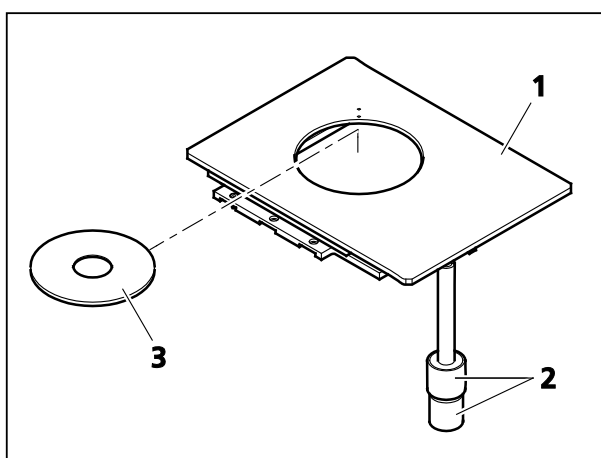

Fig. 2-16 Mechanical Stage 40x40 for Reflected Light with Stage Insert
- Mechanical stage (Fig. 2-16/1) designed to hold and position reflected light specimens, equipped with coaxial drive (Fig. 2-16/2) for XY adjustment
- Suitable for use with $d = 115$ mm stage inserts (Fig. 2-16/3).